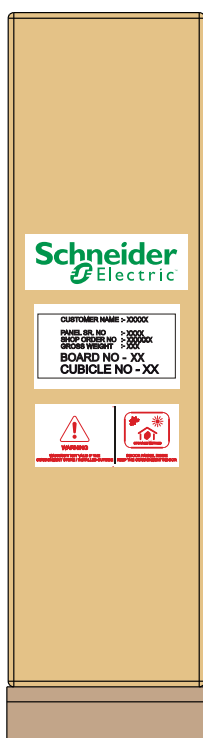

Figure 4
- If packed exclusively for land transport, the cubicles are dispatched on a pallet with cardboard box as shown in the Figure 4.